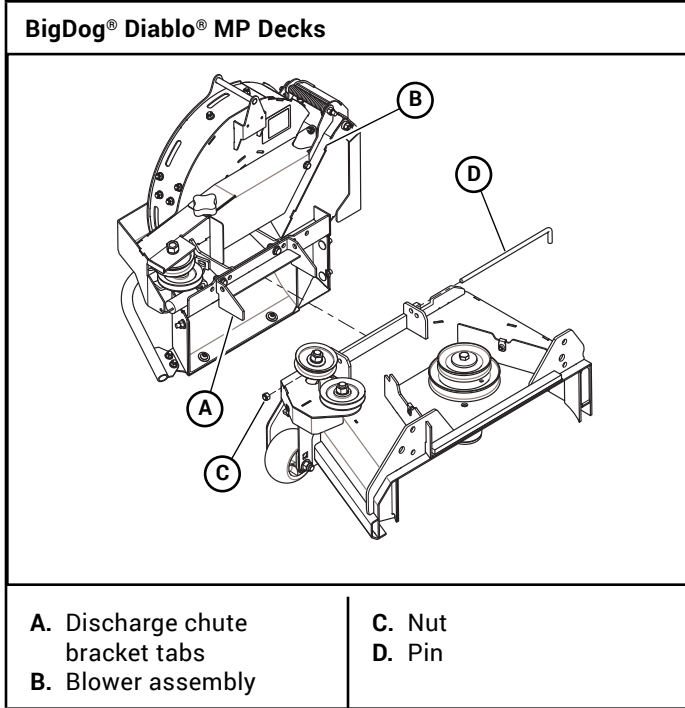
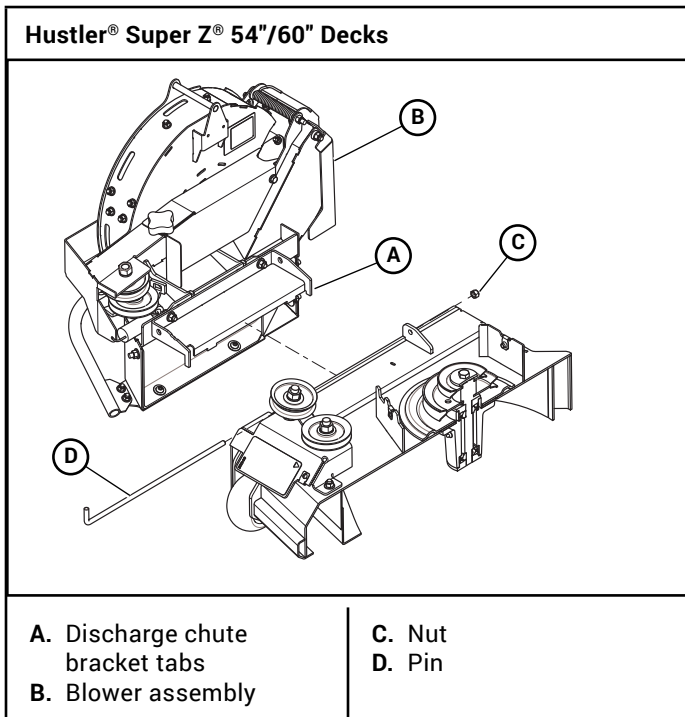

Figure 4-11
Figure 4-12
6. Remove the pin and nut that connects the blower assembly to the discharge chute bracket tabs and remove the blower assembly. Figure 4-11 & Figure 4-12